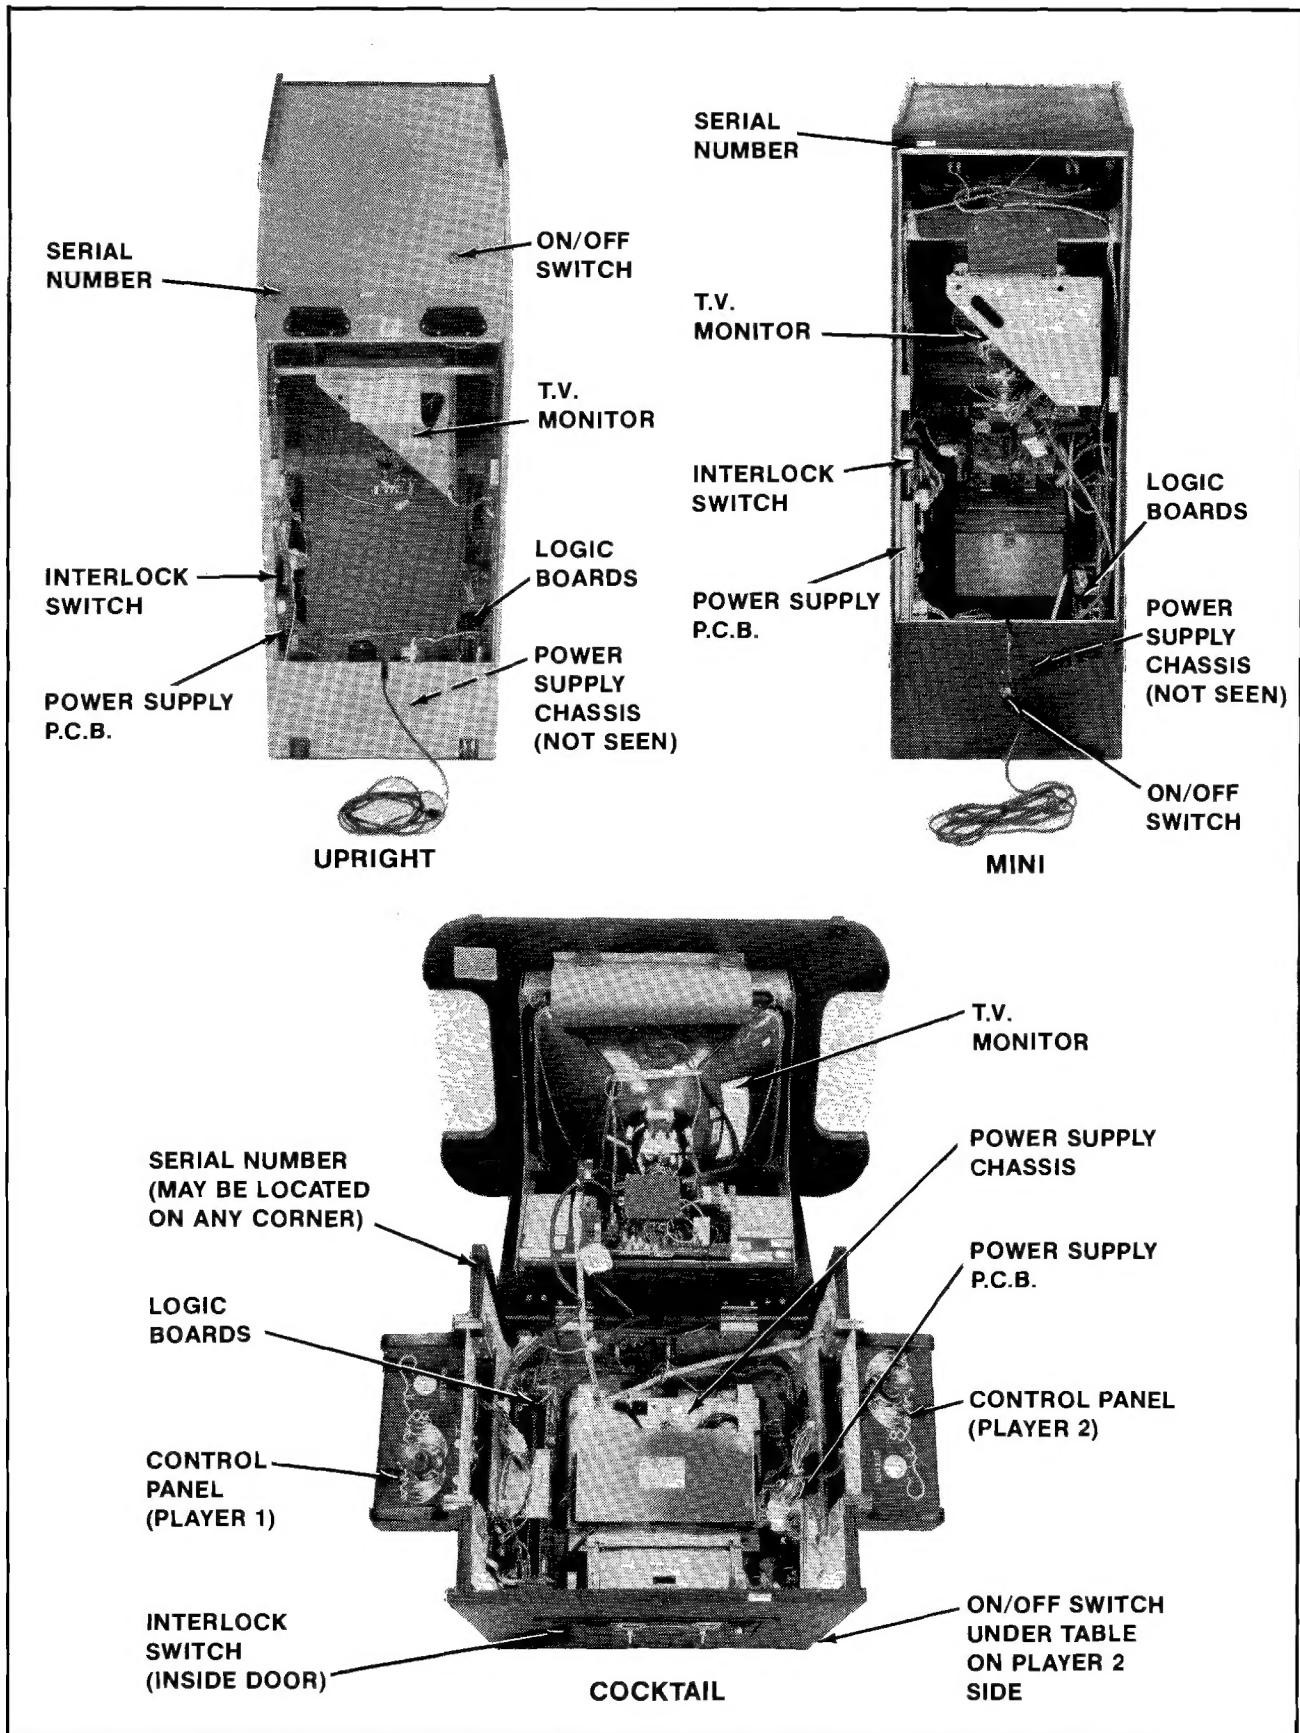

Figure 1-1 Location of Serial No., Interlock Switch, On/Off Switch, & Major Sub-Assemblies
1-2 Major Sub-Assemblies (Cont. from Fig. 1-1)	1-3
5. Open the cabinet and inspect the inside of the game for any signs of damage. See Figure 1-1.
- ☐ Note the location of the game's serial number. See Figure 1-1.
- ☐ Check all major subassemblies to be sure they are mounted securely. These are called out in Figures 1-1 & 1-2.
3. Interlock and power ON/OFF switches. See Figure 1-1.
The game ON/OFF switches for all models are located as shown in Figure 1-1. Turn the game on and allow it to warm up a few minutes.